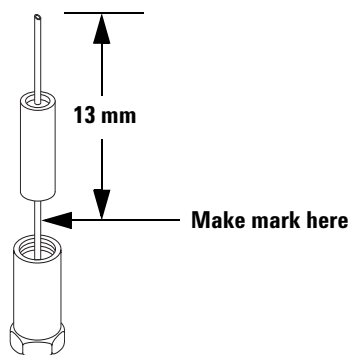

Figure 63 Marking the column
- 8 Using typewriter correction fluid, make a mark, 13 mm from the inlet end of the column. See Figure 63.